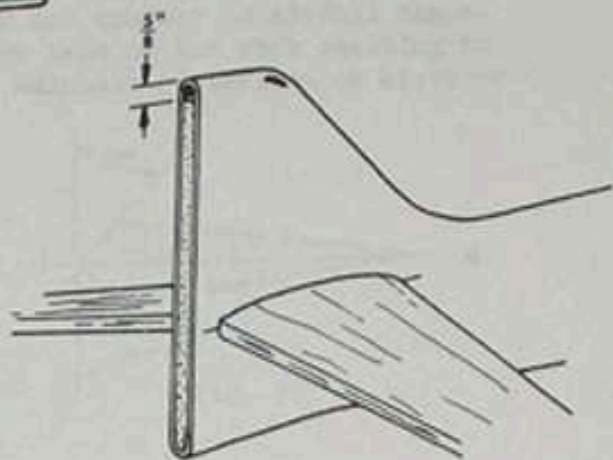

Fig. 27
27. Epoxy a 3/8" x 3/8" medium hard balsa block into the opening at the rudder hinge line, leaving a 5/8" opening at the top for the fin tip (figure 27).